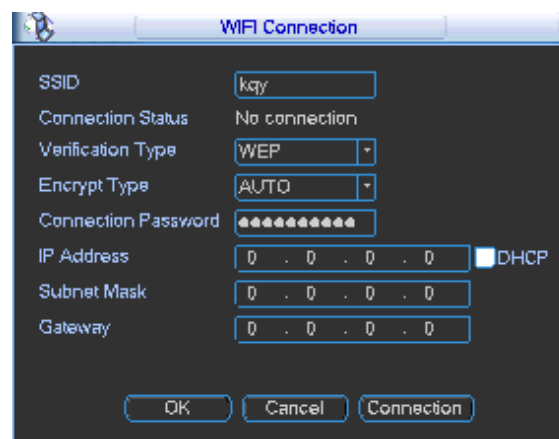

Figure 5-44
- Connect: Here you can click it to connect to the hotspot. System needs to turn off current connection and then connect to a new hotspot if there is connection of you selected one. See Figure 5-44.